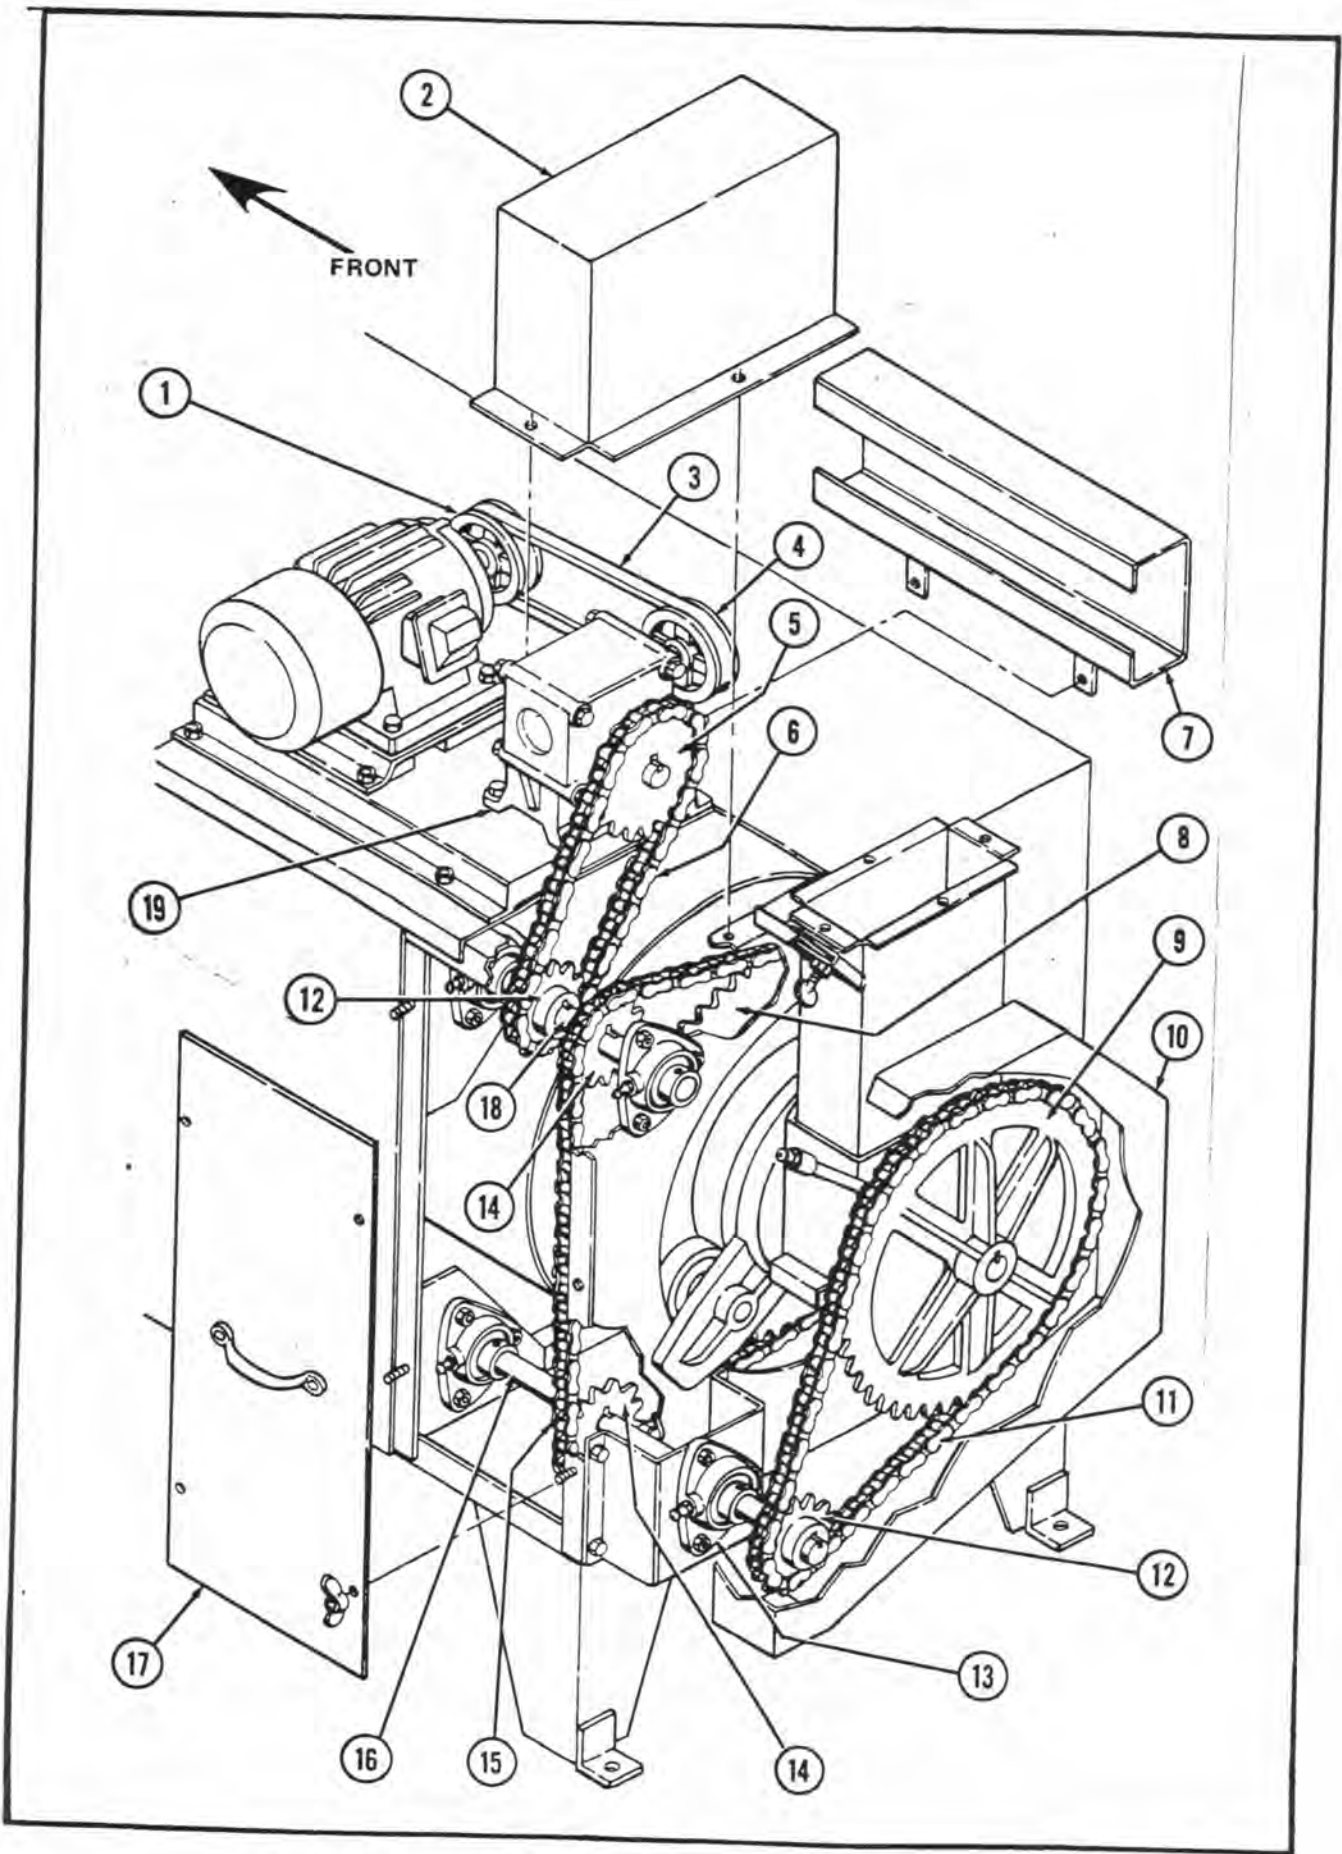

FIGURE 7 — Drive and Guard Parts, Rear End .
DRIVE SYSTEM — See Figure 7
1. Remove guard, chain sprocket and bearing (Figure 7, item 10, 11, and 9) also bearing behind item 9 and intake hopper.